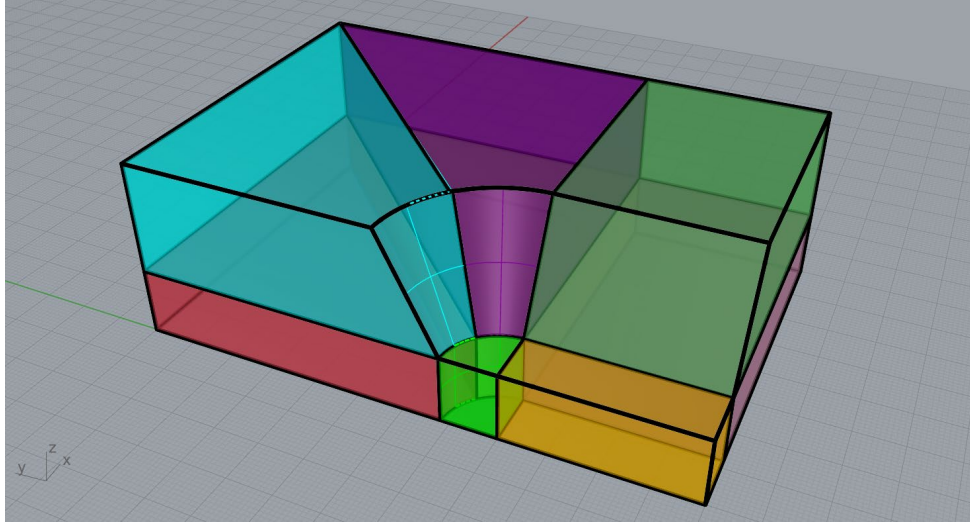

Figure 46: Solid blocks of the model (Ghosted view).
20. Show all blocks that were previously hidden with the **_Show** command. There should be eight solid blocks as in Figure 46.